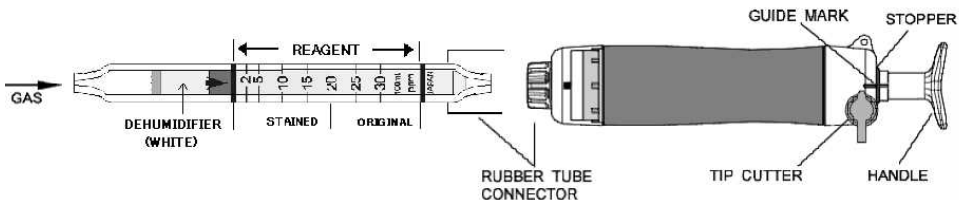

Fig.1
- ② Insert the detector tube into the aspirating pump securely as shown in Fig.1. (Arrow mark shall point to the pump.)
- ③ Align the guide marks on the shaft and stopper of the aspirating pump.
- ④ Pull the pump handle at a full stroke until it locks and wait for 30 seconds or until the completion of sampling is confirmed with the flow indicator of the pump (See descriptions about the flow indicator in the instruction manual of the pump).
- ⑤ On completion of sampling, read the scale at the maximum point of the stained layer.
- ⑥ When the concentration is below the scale range, 2 pump strokes can be used to determine concentrations of 1 to 15 ppm. Then multiply the reading value by 1/2.
- ① Temperature; No correction is necessary.
- ② Humidity; No correction is necessary.